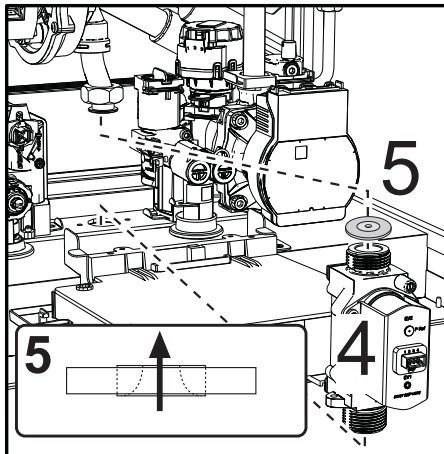

fig. 59
- Remove the gas valve “4” and the gas diaphragm “5” (fig. 59).